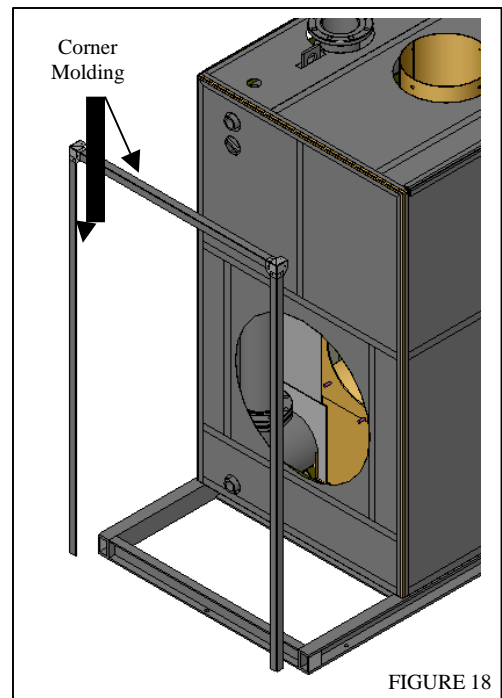

FIGURE 18
- 5.6 Now install the corner moldings. See figure 18. Use the same size screws that were used to install the jacket panels.